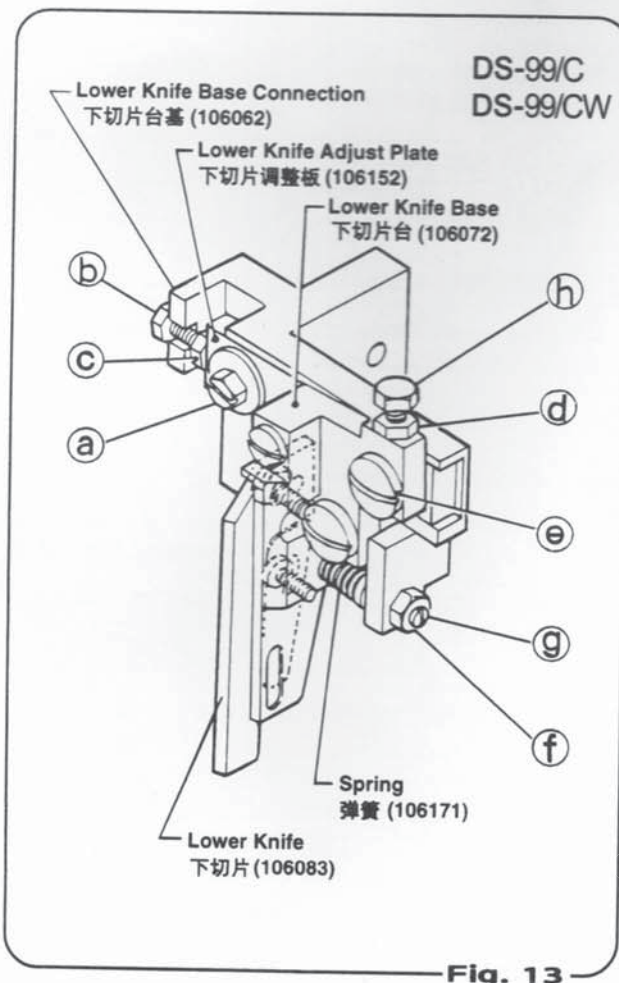

Fig. 13
- To occlude the upper and lower blades, manually move the upper blade. To do so, put off air source. Here, prior to lowering the upper blade, loosen the screws (a), (b) and (h) and the nuts (c) and (d) shown in (Fig.13). When both blades are occluded, allow a gap of 0.1 to 0.2mm between the faces of the two blades on the rear side, and tighten the screw (a) and the nut (d).
- 用手开动上刀片(#106053),查看使它和下刀片啮合。需要下降上刀片(如图13所示)时,放松螺钉(a)、(b)和(h),还要放松螺母(c)和(d)。\* 上刀片和下刀片啮合调节,如图14所示,刀片后面仅有0.1~0.2mm隙间而用螺钉(b)调整。这调整时,上切片和下切片尖头经常应接触。
- After the setting described in (1) above, where the screw (h) is in light contact with the screw (e), tighten the nut (d).
- c) After the adjustment by steps ① and ②, cut a crepe tape or thread for test. If the front end of the cutter cuts but the rear end does not, there is a gap on the rear side. In this case, loosen the nut ④ and loosen the screw ⑤ by 1/8 turn, and cut the thread again for test. If it still does not cut, loosen the screw by another 1/8 turn and repeat this adjustment and test cut until the thread can be cut, and then retighten the nut ④. If the rear end of cutter cuts but the front end does not cut, the adjustment by step ① is insufficient. Then, make re-adjustment of the rear side so that the gap between both the blades becomes 0.1 to 0.2mm. Here, adjust the upper and lower blades so that they are in contact with each other on the front side. If the lower blade tends to turn away without cutting, loosen the nut ⑥ and increase the pressure of the spring by turning the screw ⑦ clockwise. (Fig.13)
- \* 放松螺母④先将螺钉⑤转动1/8(22.5度)弯, 再试一次切断纸带或缝线。还不能切时, 再转动螺钉⑤每一次1/8弯, 以达满意切断。确认切断好, 拧紧螺母④稳固地固定。
- \* 相反, 后侧能切得快, 但头侧不能切时, ①部调整不完备。再一次转动螺钉②调为上切片和下切片之间仅有0.1~0.2mm隙间。刀片切缝线时, 下切片错过缝线不确实切断线, 放松螺母⑥将螺钉⑦顺时针方向转动而弹簧上加压力。(图13)